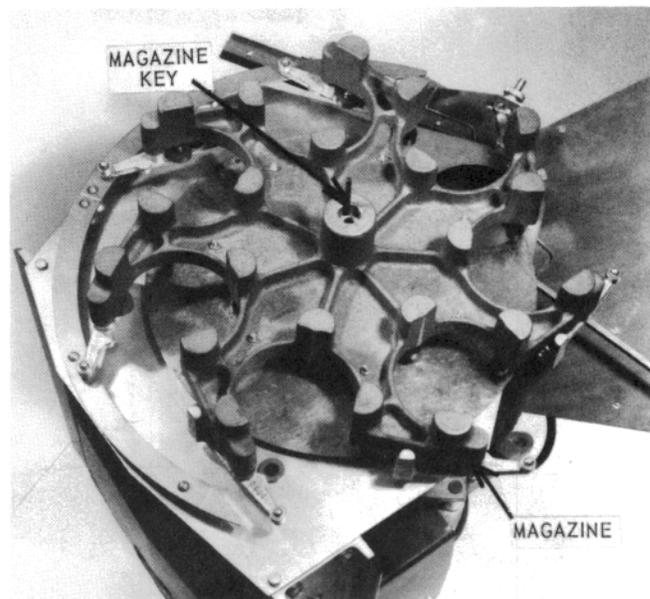

Figure 85 – Magazine and Magazine Key
- 7.1.2 Pull up on the magazine and remove it. The magazine key will be exposed and should be removed to avoid losing it (see Figure 85).